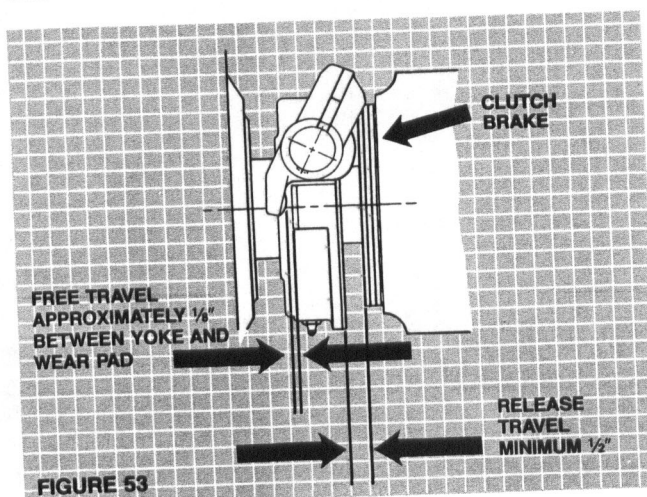
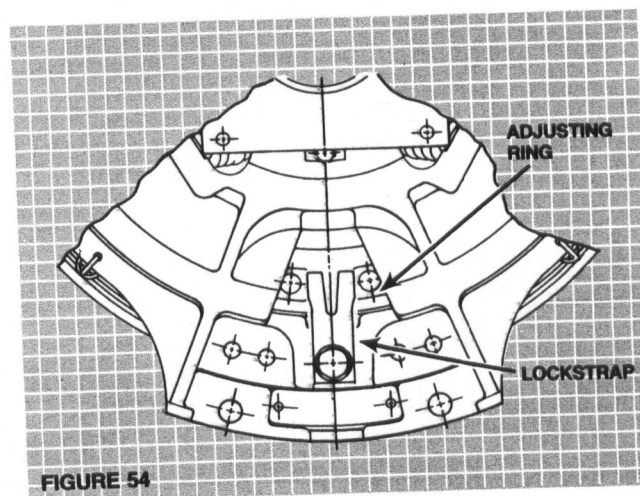

FIGURE 53
FIGURE 54
3. There must be ½" movement of the clutch release bearing for the clutch to release properly. (Fig. 53) If these conditions exist, the clutch is properly adjusted. If not, adjustment of the clutch is accomplished by using the adjusting ring. (Fig. 54) Specific instructions for manual and self-adjusting clutches are as follows: